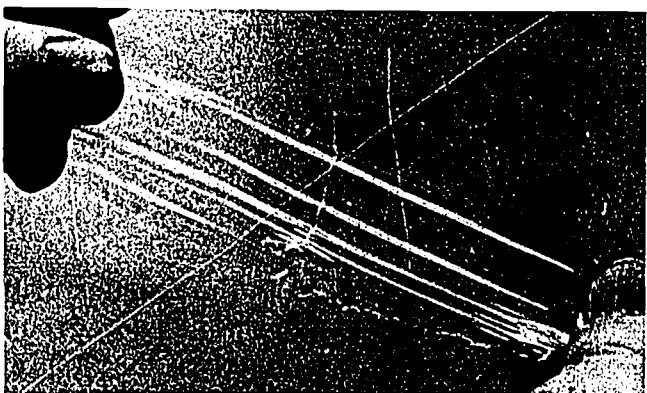

Fig. 119-3. Testing Plastic
4. Remove the metal strip after 5 seconds, and check the two squares to see if they are fused together. See Fig. 119-3. Ex-